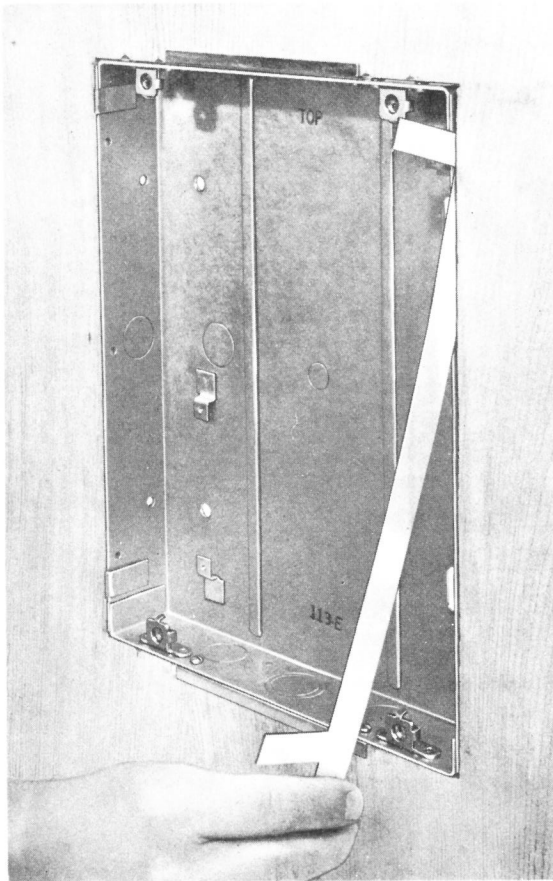

Fig. 15—113E Apparatus Box, Showing Installation of Clips from D-179941 Kit of Parts
(2) Slide apparatus box in wall until stops firmly contact wall surface.
(3) Insert the clips between the side of the box and the edge of the hole in wall (Fig. 15) with the tabs protruding toward the front.